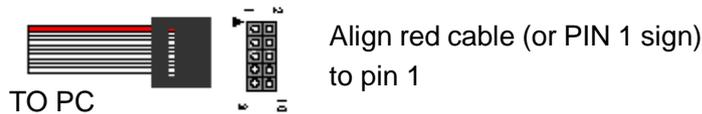

Fig. 17 ByteBlaster II (or USB Blaster) connection
3. Connect the ByteBlaster II 10-pin female plug to CN3 (Card address: Q.1, 5.0) (Fig. 17).